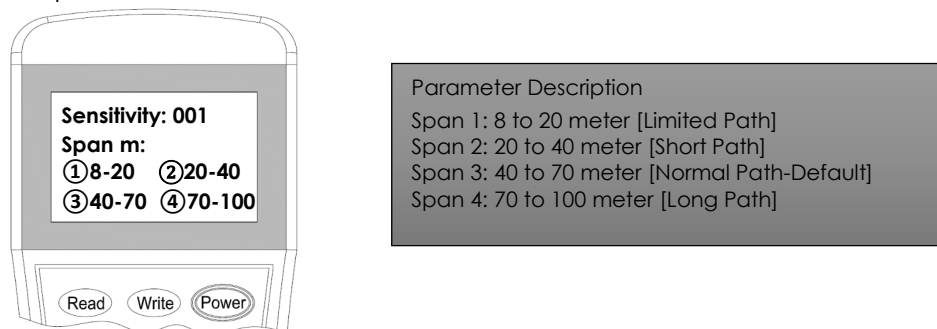

Figure 11
2. Switch on the programmer, then press button “3” then display “**Sensitivity and Distance (m)**”. Then enter then press “**0/Page**” key to highlight the previous Span setting. Then press value from 1, 2, 3 or 4 correspond to the span value and then press “**Write**” key. (Figure 11)